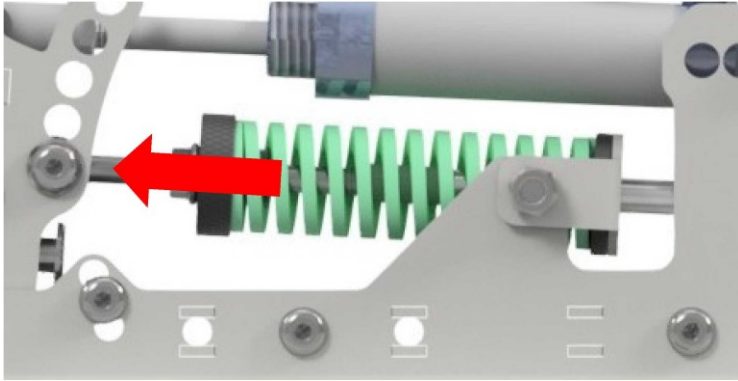

Fig. 4. Direction for loosening the knurled knob
- ✓ loosen the compression spring by unscrewing the knurled knob by hand so that the spring does not put pressure on pedal levers [Fig.4];
- A. loosen the compression spring by unscrewing the knurled knob by hand [Fig.4], so that it does not press against the pedal levers;
- A. loosen the compression spring by unscrewing the knurled knob by hand so that it does not press against the pedal levers [Fig. 4];